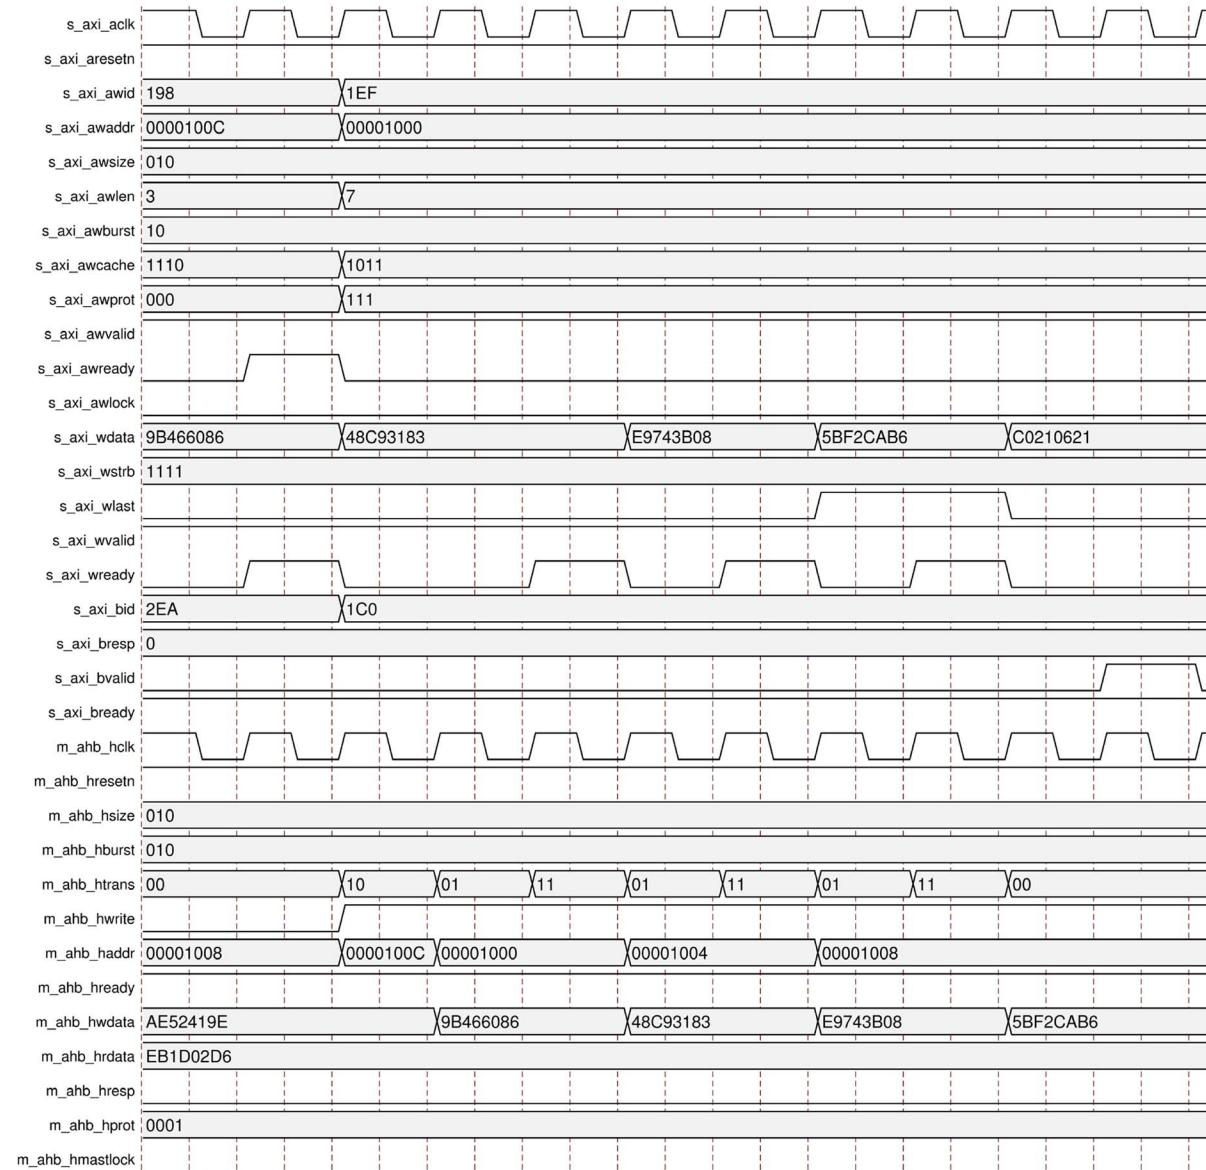

Figure 3-9: AXI4 Wrapping Burst Write Transfer of Length 4
9. AXI4 wrapping burst write transfer of length 4 is shown in Figure 3-9.